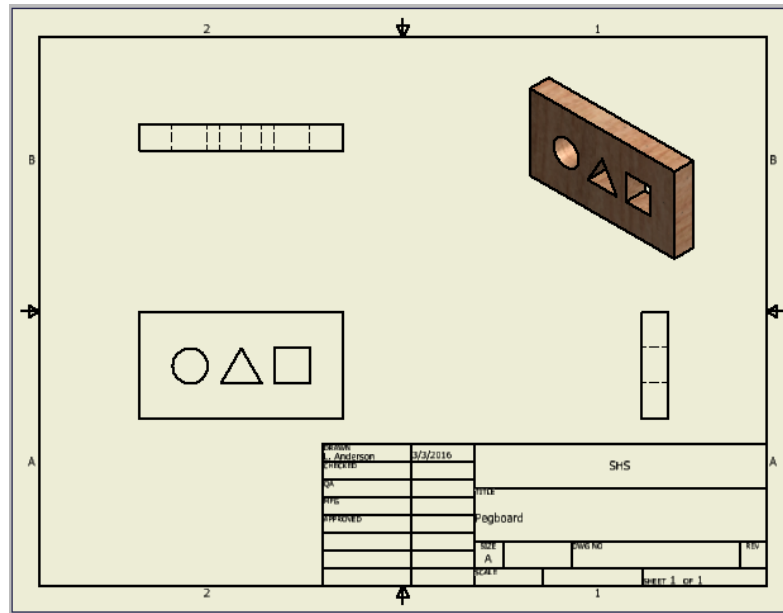

Figure 1.
13. Your drawing should look similar to Figure 1. Note that dashed lines are used to show the location of internal structure, and are called “hidden lines”.